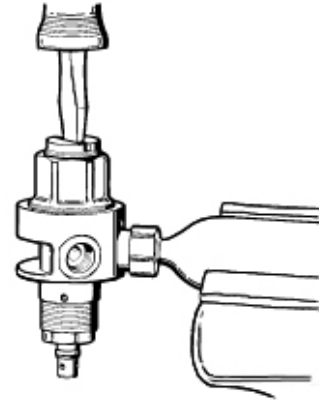

Figure 7 - Adjustment screw removal
11. Secure the vise mounting tool in a vise, so that the low pressure side of the first stage faces straight up (see Figure 7).